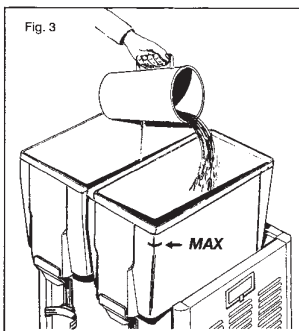

Fig. 3
4. Do not let the liquid level exceed the "MAX" level line (FIG. 3).